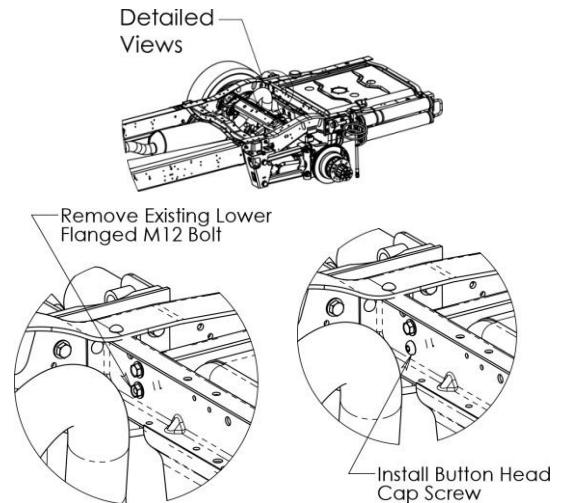

Figure 12. Cross-member bolt replacement
7. Remove Lower factory cross-member bolt. Replace bolt with Button Head Cap Screw M12-1.75x35. Torque to **75-92 ft-lbs.** See Figure 12.